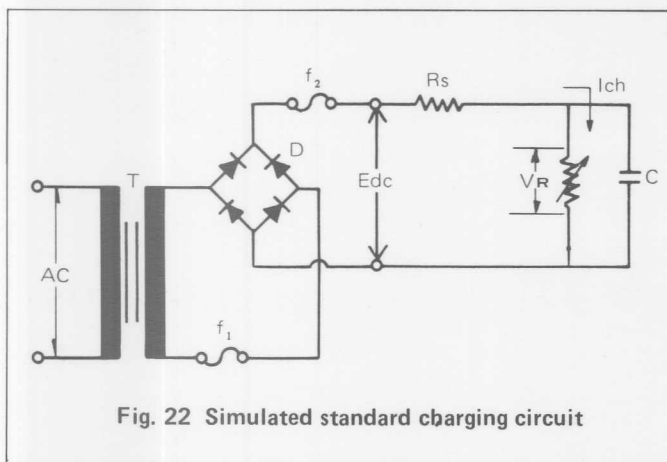
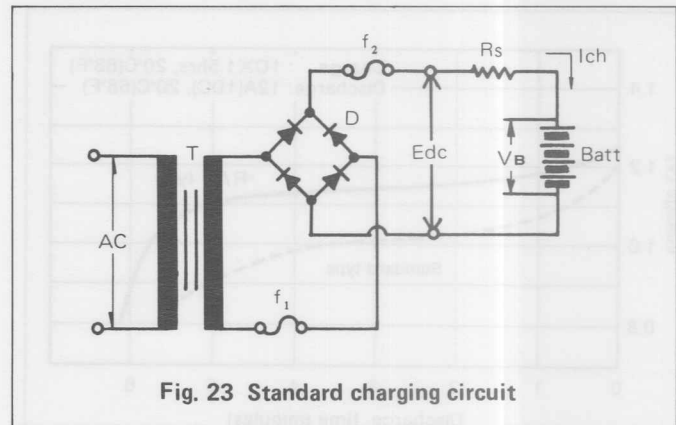

Fig. 22 Simulated standard charging circuit
Fig. 23 Standard charging circuit
An example of the simulated standard charging circuit is shown in Fig. 22. The following factors must be considered in the design of the charger.
- National Ni-Cd cells are charged using constant current (or semi-constant current chargers (Fig. 23). The rate of charge is dependent on the size and type of cell. Standard cells, sub C and smaller, can be charged at rates from $C/3 \sim C/4$ to $C/20$. (rapid charging of "R" type cells is covered in paragraph 1.7.3.)
- The secondary voltage of the transformer should be more than two or three times the nominal voltage of the battery. Note that the secondary side voltage is the voltage which passes through an artificial circuit which uses resistor and a capacitor instead of a cell, as shown in Fig. 22. [V_B (in Fig.23) = V_R (in Fig. 22)]
In Fig. 23.